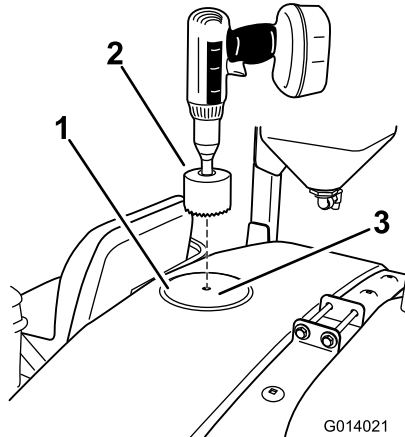

Figure 20
1. Locate the forward location on the top of the tank as shown in Figure 20.
2. Use a 9 cm (3-5/8 inch) hole saw to drill a hole at the drill mark (Figure 20).